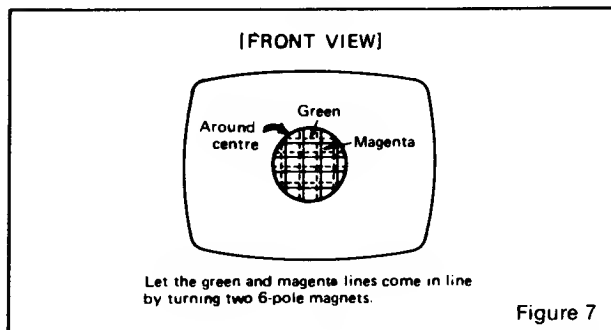

Figure 7
- 2.6 Turn on green input to obtain magenta (red/blue) and green crosshatch lines. Rotate the 6-pole (rear) pair of magnets as a unit to minimize separation of the magenta and green lines (figure 7). Vary angle between the two tabs and further rotate as a unit to finalize.